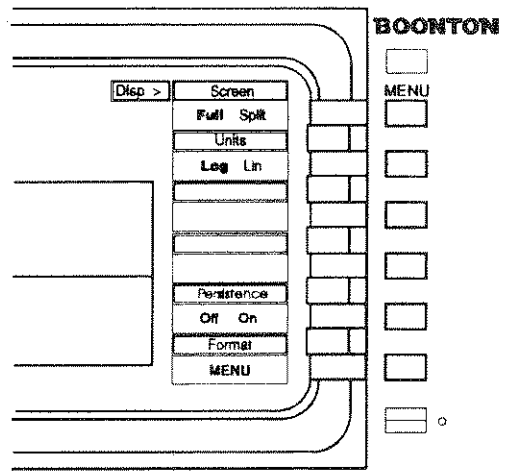

Figure 4-3a. *Disp > Menu*
7. The word "MENU" appearing in a selection box indicates that there is a submenu of additional selections at the next lower menu level. In the menu shown in Figure 4-3a, for example, when you press the *Disp > Trace Type* menu key, you will call up the *Disp > Trace Type >* submenu illustrated in Figure 4-3b.